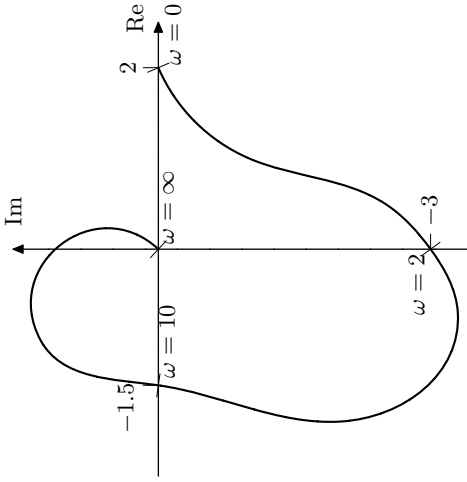
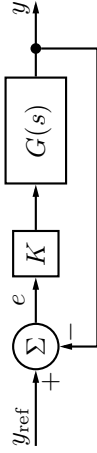

Figure 3.17a
Figure 3.17b
3.17 The system  $G(s)$  is asymptotically stable and has the Nyquist curve in Figure 3.17a. It is controlled using feedback according to Figure 3.17b.